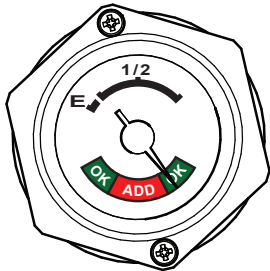

Figure 31. LPG Fuel Gauge
2. Read the fuel gauge (Figure 31) on the propane tank to determine if the propane level is low.